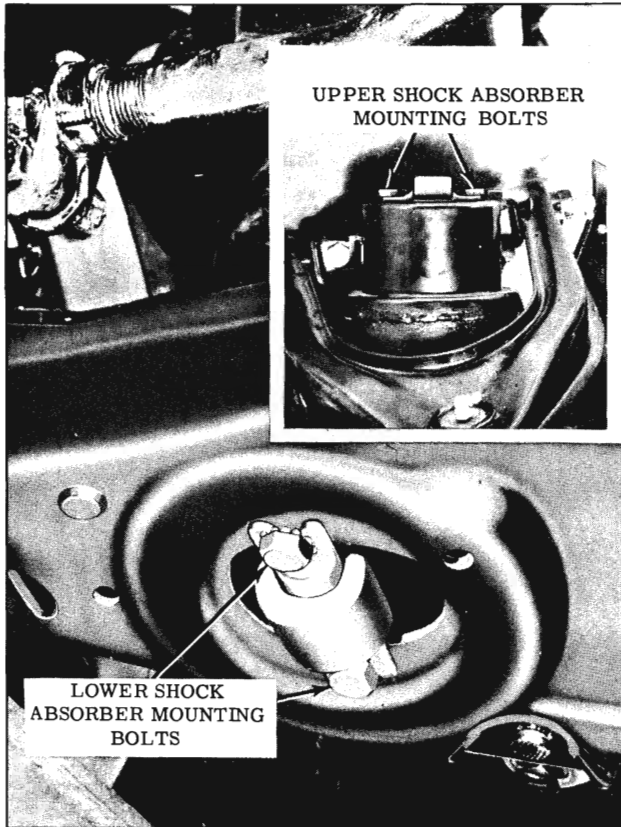

Fig. 5-103 Shock Absorber Attachment
lower mount and pump VERTICALLY several times. If smooth hydraulic resistance is present in both directions, the shock absorber is satisfactory. (Fig. 5-103)
1. Remove the 2 lower and 2 upper shock attaching bolts. (Fig. 5-103)